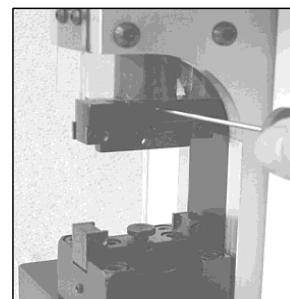

Fig. 9.02
- Slightly tighten the T-Bolt by turning the hole-nut clock wise. (Fig. 9.02)